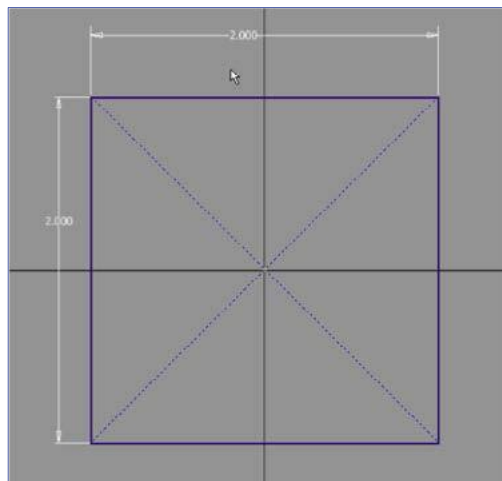

Figure 6
3. In the sketch environment, create a 2" by 2" square using the Rectangle command (Figure 6).